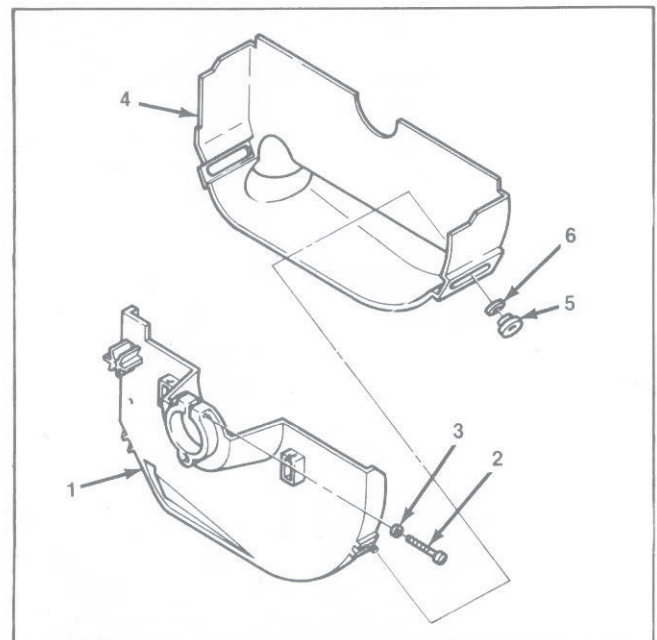

Figure 1. Disc Sander Dust Chute Assembly.
3. Loosen hex head cap screw (2, Figure 1) of dust chute assembly. Mount chute on quill so that collar of dust chute (1) butts up against stop collar on quill. Tighten screw (2) securely.
4. Loosen knobs (5), then open chute by sliding dust chute cover (4) away from headstock.